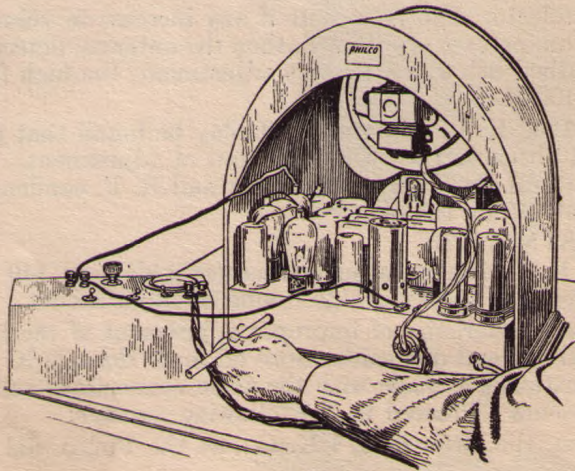

Fig. 1
1. Make the necessary connections between the oscillator and the receiver as shown in the illustration, Fig. 1. The connections consist of (a) the ground wire to the GND. terminal of the radio set and to the G terminal of the oscillator; (b) the A terminal of the oscillator to the grid of the first detector tube (tube shield in place and first detector grid clip removed), (c) output meter terminals to the primary of the output transformer (this connection is obtained at the speaker plug and socket through the Philco plug-in adapter, part 6095), (d) power cord of receiver to the electric power outlet after all other connections have been completed.